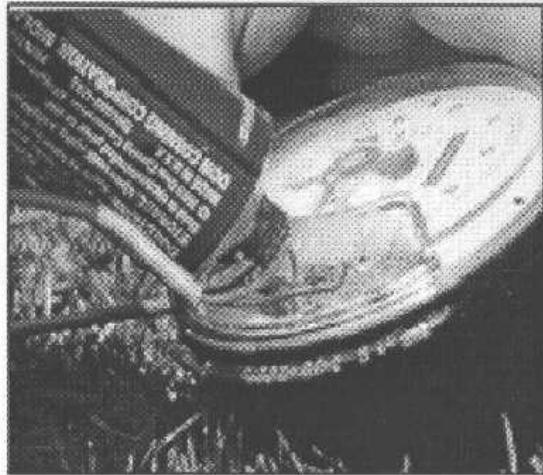

Figure 2-4. Applying Moisture Protection Compound
- 6 Use a generous amount of moisture protection compound (Dow Corning #4[®] or GE Novaguard GB24[®]) to completely cover the terminal screws and exposed wire (Figure 2-4).